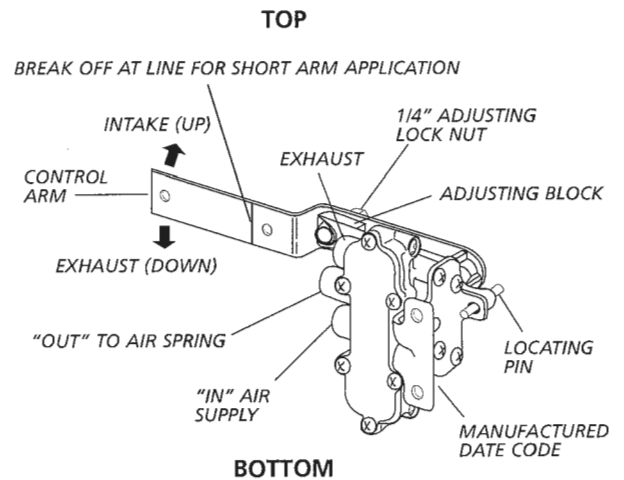

FIGURE 2
- a.** Loosen the  $\frac{1}{4}$ -inch adjusting lock nut located on the adjusting block of the height control valve (Figure 2). This will allow the adjusting block to oscillate.